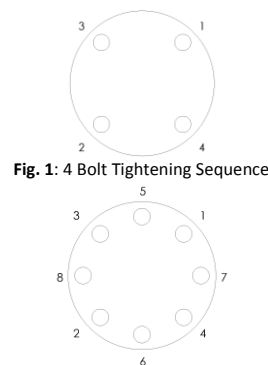

Fig. 1: 4 Bolt Tightening Sequence
- Flange bolts should be tight enough to compress the gasket and make a good seal, without distorting or putting excessive stress on the flanges. Suitable washers should be used between the bolt head and flange and the nut and flange. Bolts should be tightened in alternating sequence (Figure 1). See Table 1 for recommended torque.